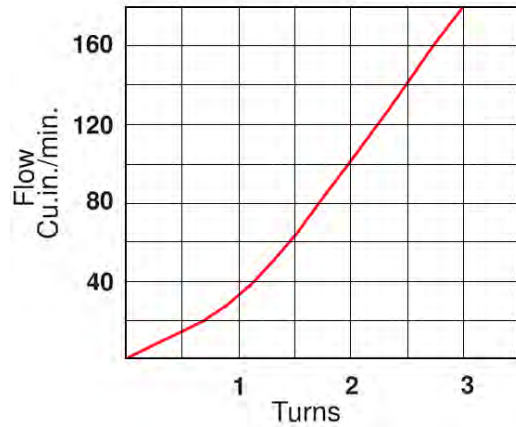

Figure 3.
- Can be used to quickly verify/predict/trouble shoot systems when orifice/pilot flows need to be analyzed or documented (See Figure 3).